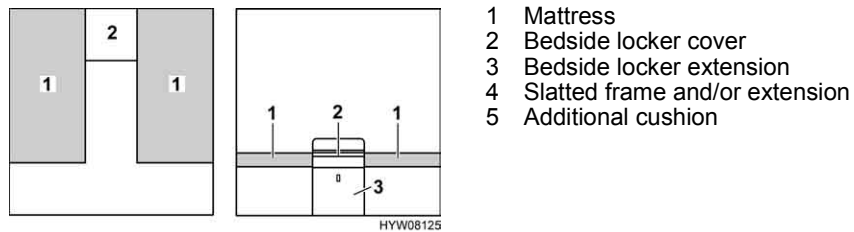

Fig. 115 Prior to conversion
- Remove the bedside locker cover (Fig. 115,2) and put it to one side.